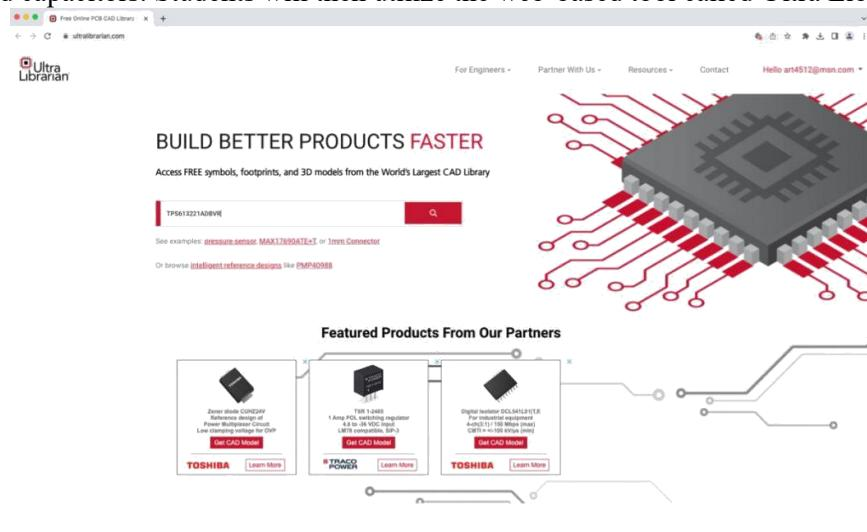

Figure 1: Ultra Librarian Webpage.
- 3.1** Starting by looking up (searching) and importing the 3.3 regulator integrated circuit TPS613221ADBVR used in the regulator laboratory assignment. Using a web browser to go to (see Figure 1):